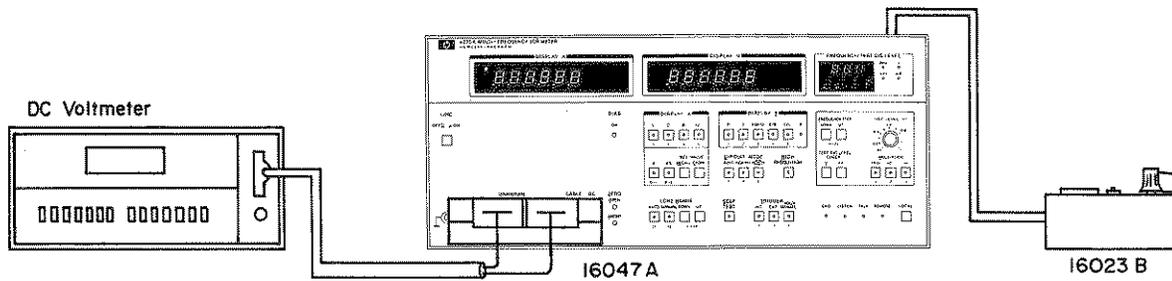

Figure 4-7. Option 001 Int DC Bias Supply Test Setup.
4. Connect an appropriate pair of wire leads between dc voltmeter input and 16047A Test Fixture (see Figure 4-7).